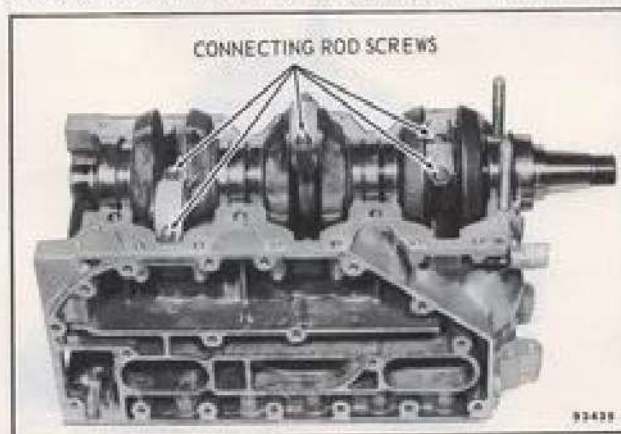

Figure 5-18. Connecting Rods Exposed
e. Use a 5/16 inch, 12 point socket to remove connecting rod screws. Remove rod caps and roller bearings. See Figure 5-18.